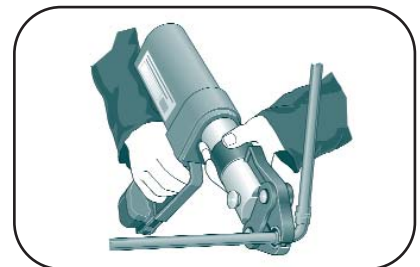

Figure 5
6. With the correct size jaws inserted into the press-tool, place them over the bead of the fitting maintaining a 90° angle between the tube and the tool. Depress the trigger to commence the compression cycle, when the jaws fully enclose the mouth of the fitting, compress the assembly and the tool will stop automatically when complete. (Figure 5)